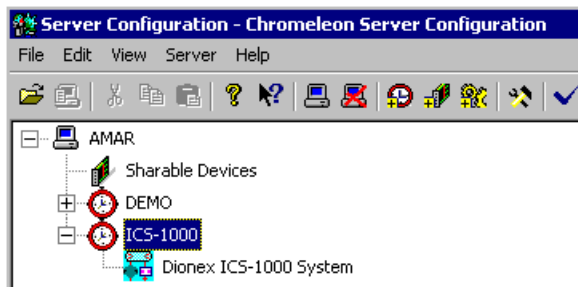

Figure 14. Example: ICS-1000 Timebase
2. Select the timebase that was created for the ICS-1000 (see Figure 14); then, click the **Add device** icon  on the toolbar (or select **Edit>Add Device**).